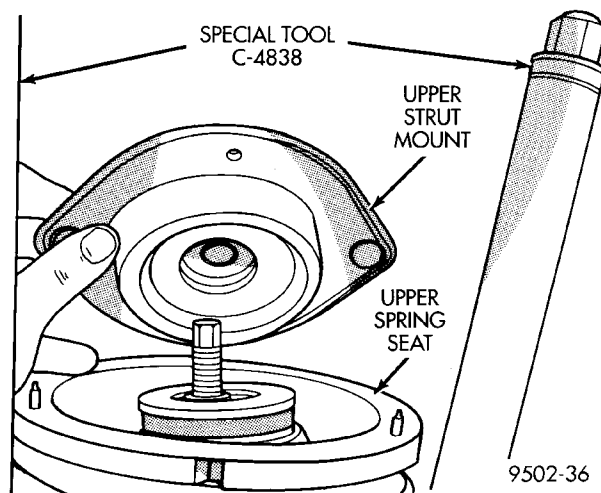
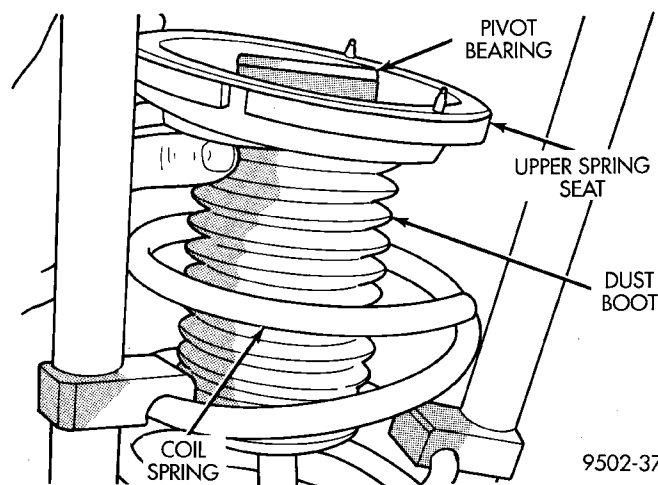

Fig. 62 Strut Mount
Fig. 63 Upper Spring Seat Assembly
(5) Remove the strut assembly mount/isolator (Fig. 62) from the strut.
(6) Remove the upper spring seat, pivot bearing and dust shield as an assembly (Fig. 63) from the strut.
(4) Install dust shield, pivot bearing and upper spring seat as an assembly on the strut (Fig. 63).
(5) Position upper spring seat alignment notch with clevis bracket on strut assembly.
(6) Install strut mount on strut assembly (Fig. 62) and the strut mount retaining nut on the shaft of the strut assembly.